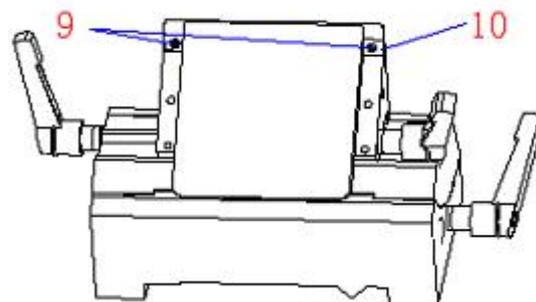

Fig. 21
As shown in Fig. 21, first rotate and loosen the lever (5). Then, insert the blade (6) into the knife holder (4) following the indicated direction, and rotate the lever (5) vertically to secure the blade.